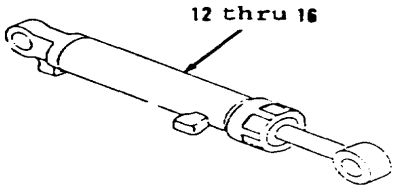

Figure 10-127.
2. Install two new seals (12) in cap (15) of cylinder (16).
3. Attach hoist and sling to cylinder (16).
4. Using hoist and sling, position items 16 thru 12 as an assembly (Figure 10-127). Remove slack from sling.